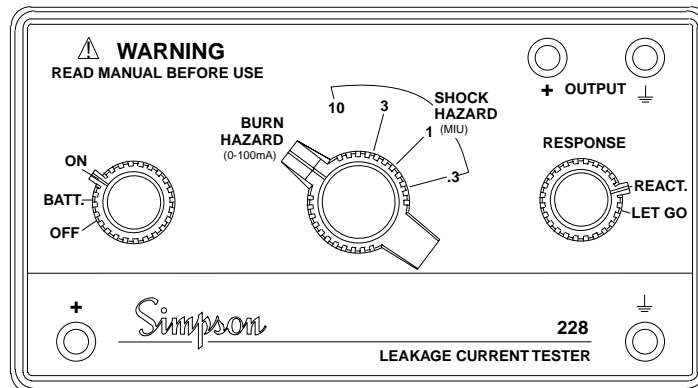

Figure 6
1. Turn Function Select switch to **BURN HAZARD** (see Figure 6 below).
4. Turn Function Select switch to **BURN HAZARD** (see Figure 6, page 14).